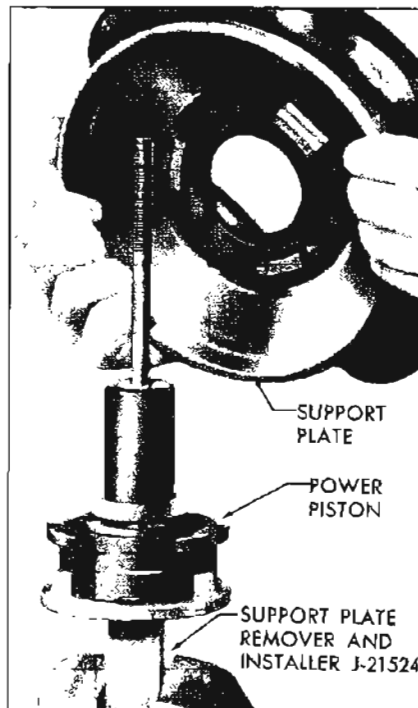

Figure 9-30—Installing Power Piston into Support Plate
15. Holding the support plate on the bare metal, with the locking tangs down, place the support plate and diaphragm assembly down over the tube of the power piston. The flange of the diaphragm will fit into the groove on the power piston. See Figure 9-30.